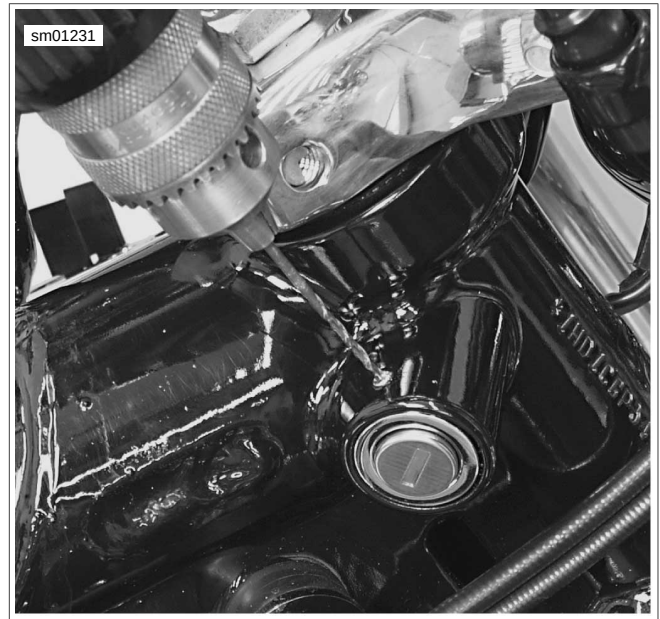

Figure 2-241. Drilling Lock Pin
5. See Figure 2-240. See Figure 2-241. Using a 5/64 drill bit, carefully drill a hole in the center of the lock pin.